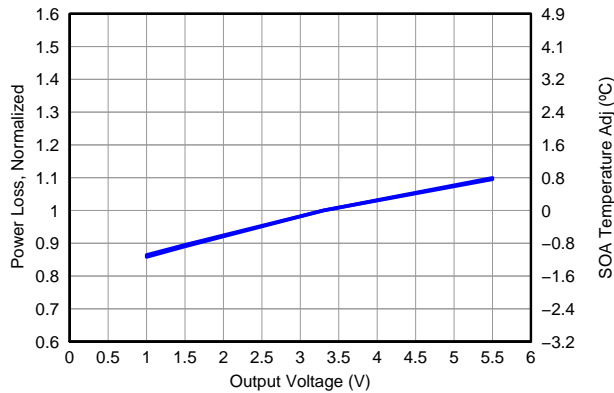

Figure 8. Normalized Power Loss vs. Output Voltage
- Normalized Power Loss for output voltage  $\approx 0.9$  (Figure 8)
- SOA adjustment for output voltage  $\approx -0.8^\circ\text{C}$  (Figure 8)